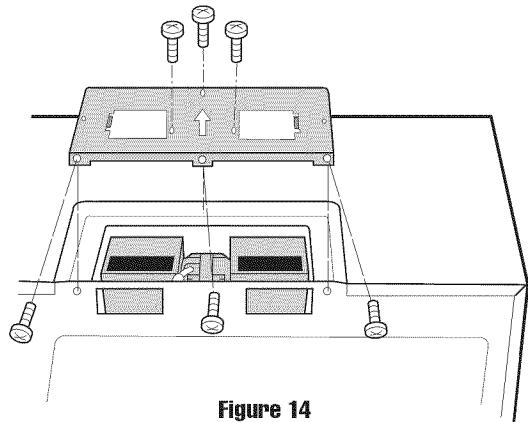

Figure 14
5. Attach the Fan Cover Bracket to unit with the 3 screws from back edge and 3 screws from the top center of the Fan Cover Bracket, which were removed in Step 1 above. See Figure 14 on page 6. The Hood Fan Unit is now rotated for vertical exhaust operation.